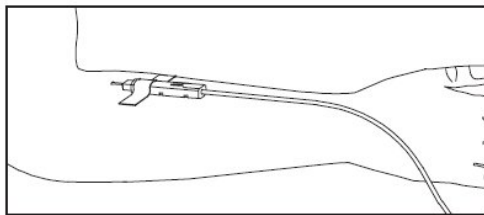

Figure 2
8. When good blood flow is established, slide the DONORCARE™ needle guard over the needle hub into the engaged position. Leave the front third of the needle hub exposed for access. Stabilize the front of the needle guard to arm with tape. (see Figure 2)